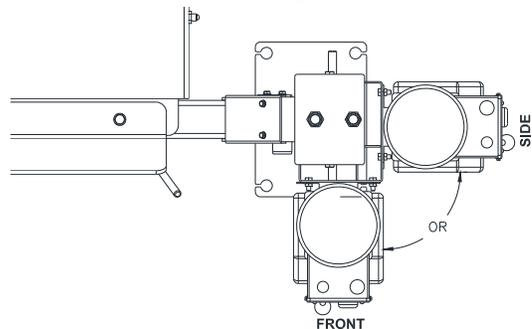

Fig 15 – Power Unit
- 31) Install the Power Unit to the column using the supplied M8x20mm bolts and M8 nuts. The power unit can be installed on either the front or side of the power column to suit install location, shown in Fig 15.